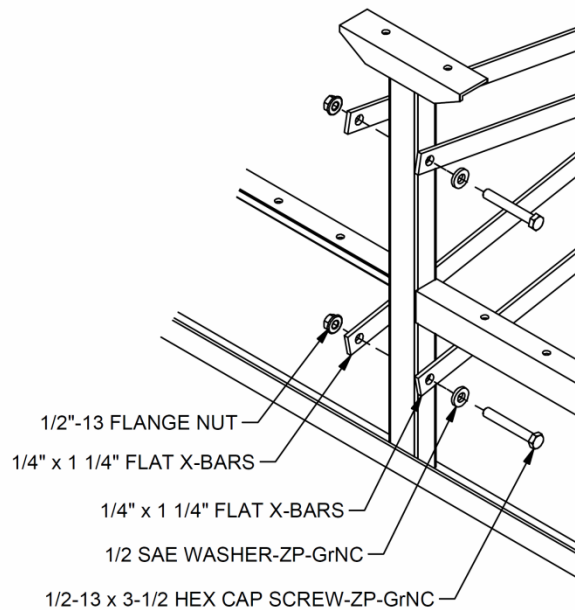
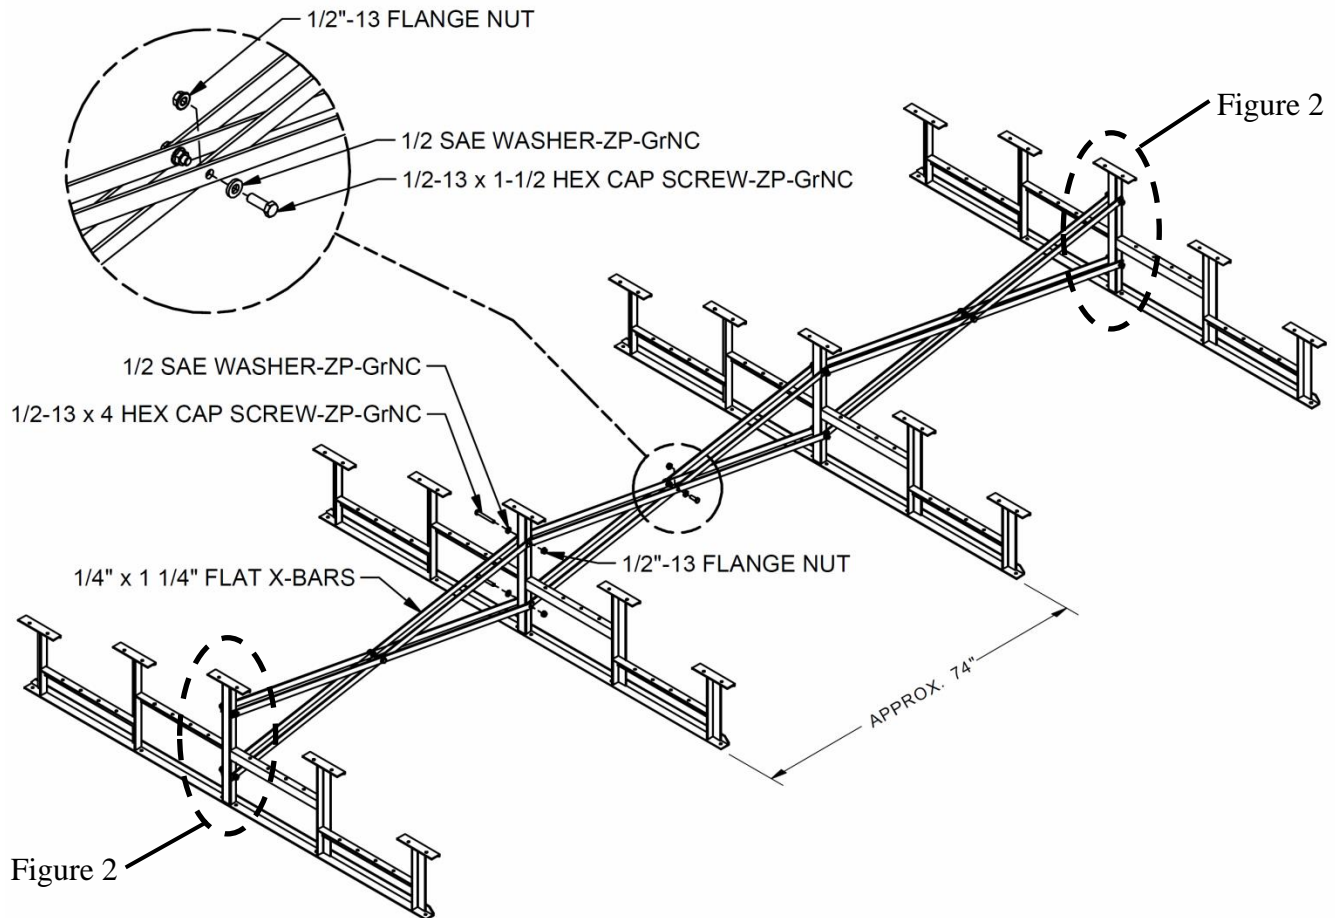

FIGURE: 2
FIGURE: 3
2. Install four end support X-Bar hardware on the backside of frame as shown in figure 2 – repeat this step to make another one, see figure 3.
3. Assemble undercarriage frame as shown in figure 3. Vertically plumb and square each leg before tightening cross-bracing hardware.